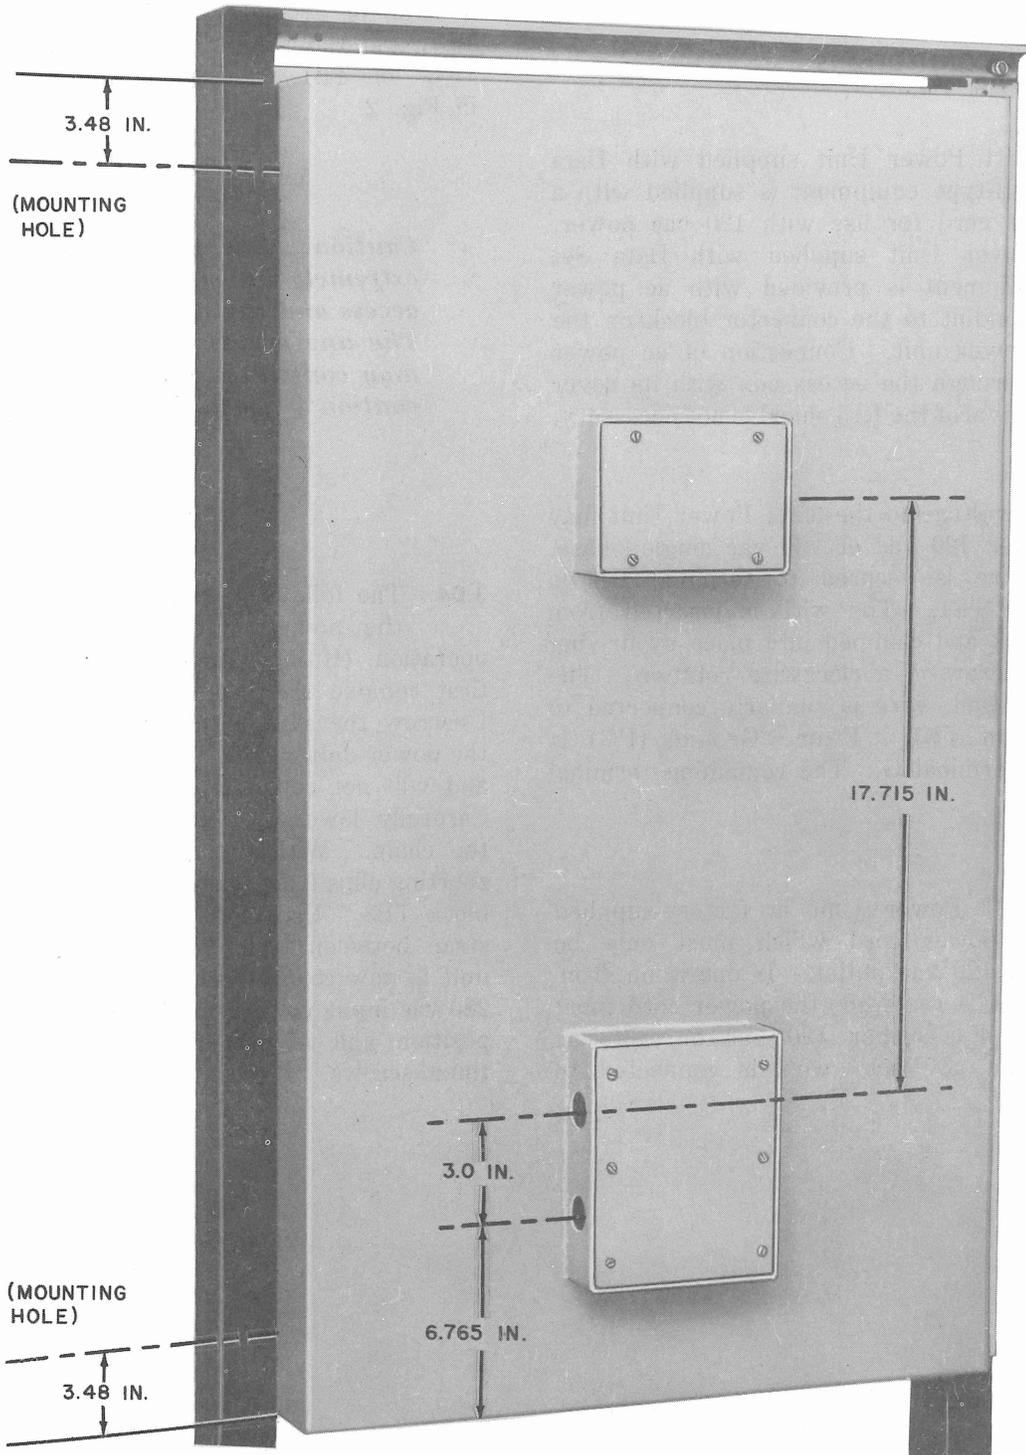

Fig. 1—Typical Data Set 207C-Type, Rear View With Dimensions
2.06 When installing Data Set 207C-type equipment, remove the covers from both the data set access box and power supply access box. Interface leads from 3/4-inch rigid ferros conduits must be brought through the left side of the data set access box, as seen from the rear, located at the bottom (Fig. 1) before attaching the conduit to the appropriate access box holes. Use the mesh gaskets under the conduit lock nuts. Pull enough wire through the access box so that connections to adapter boards A1 and A2 may be made outside of the shield. The ac power leads will be provided through a conduit to the right side of the power supply access box, as seen from the rear, located at the top.